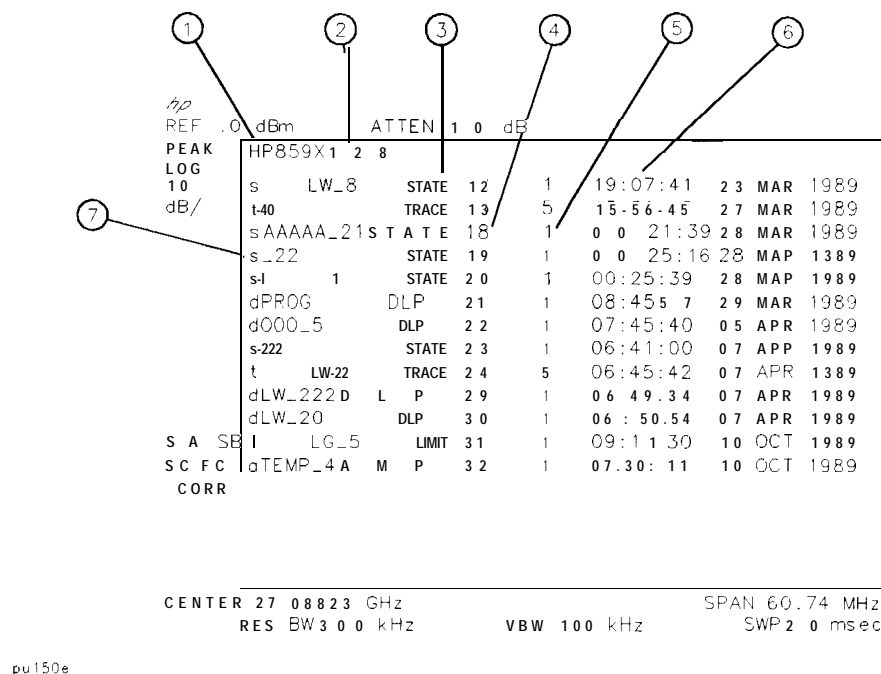

Figure 7-1. Memory Card Catalog Information
**Catalog Card** ***Requires Option 003 for an HP 8590L, HP 8592L, or HP 8594L.*** accesses a menu with the cataloging functions for the memory card: CATALOG ALL, CATALOG STATES, CATALOG TRACES, CATALOG PREFIX, CATALOG DLP, CATALOG AMP COR, CATALOG LMT LINE, and CATALOG DISPLAY . Each catalog function displays catalog information and accesses a menu containing LOAD FILE and DELETE FILE. The catalog contains information about the items stored on the memory card ( see Figure 7-1 and Table 7-3).